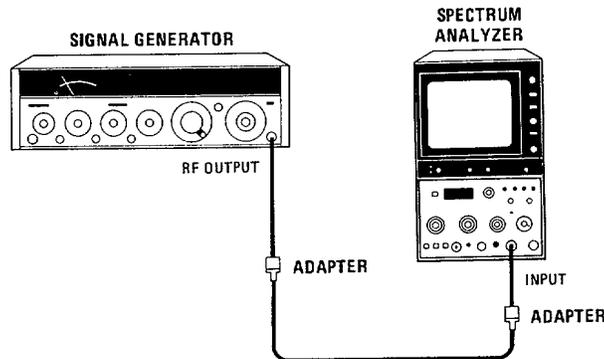

Figure 4-8. Resolution Bandwidth Accuracy Test Setup, 3 MHz to 100 kHz
2. Connect equipment as shown in Figure 4-8.